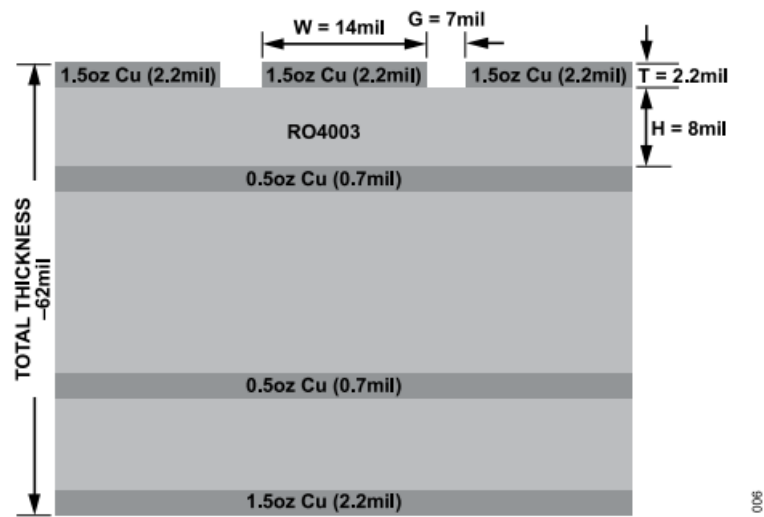

Figure 2. Evaluation Board Stack-Up
- The ADRF5301-EVALZ is designed using RF circuit design techniques on a 4-layer printed circuit board (PCB). The PCB stack-up is shown in Figure 2 (not provided).
- The ADRF5301-EVALZ is designed using RF circuit design techniques on a 4-layer printed circuit board (PCB). The PCB stack-up is shown in Figure 2.